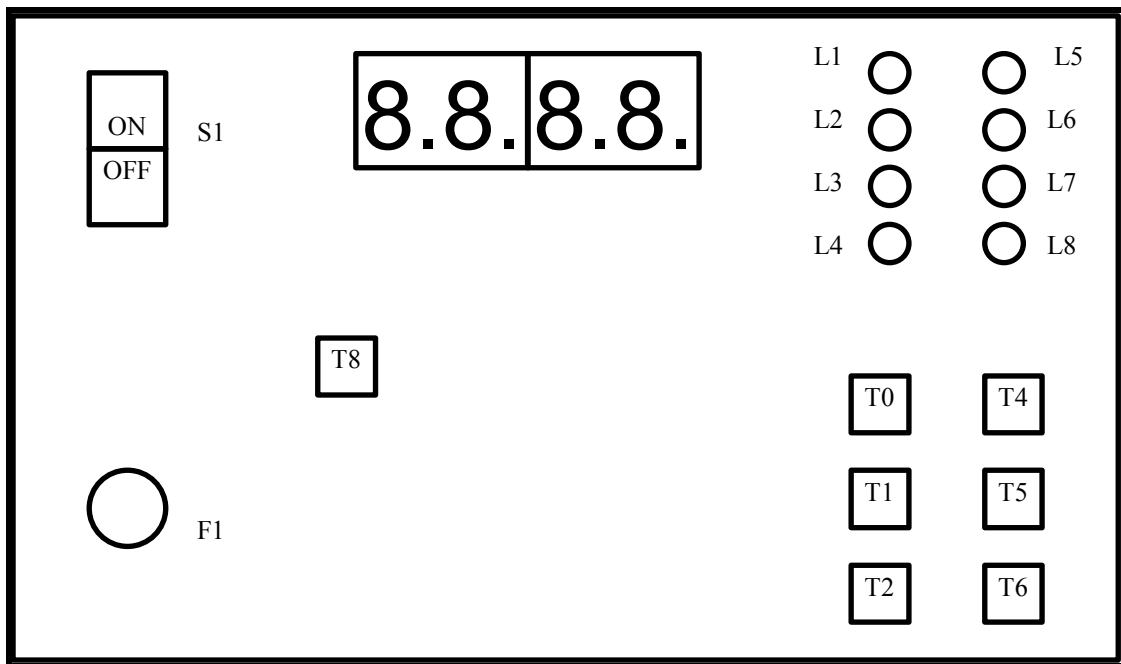

Figure 1: Layout of keys and LED's on the XA620-15 module.
The control panel is shown in fig. 1. The panel consists of:
- a main Start-Stop switch (indicated as S1 in figure 1);